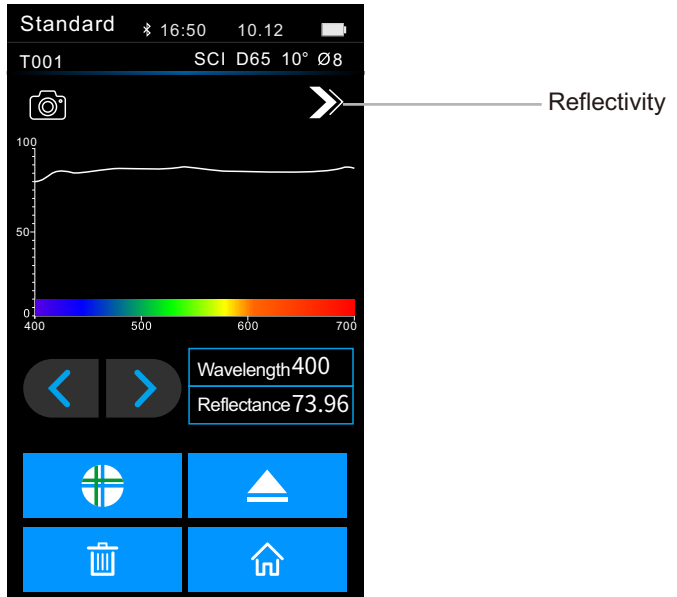

Figure 8 Measuring Reflectivity of Standard
9)**Wavelength Switch Button:** As shown in Figure 8, click the " " button, and the reflectivity of the currently measured sample and the wavelength of light will be switched at intervals of 10nm"  "